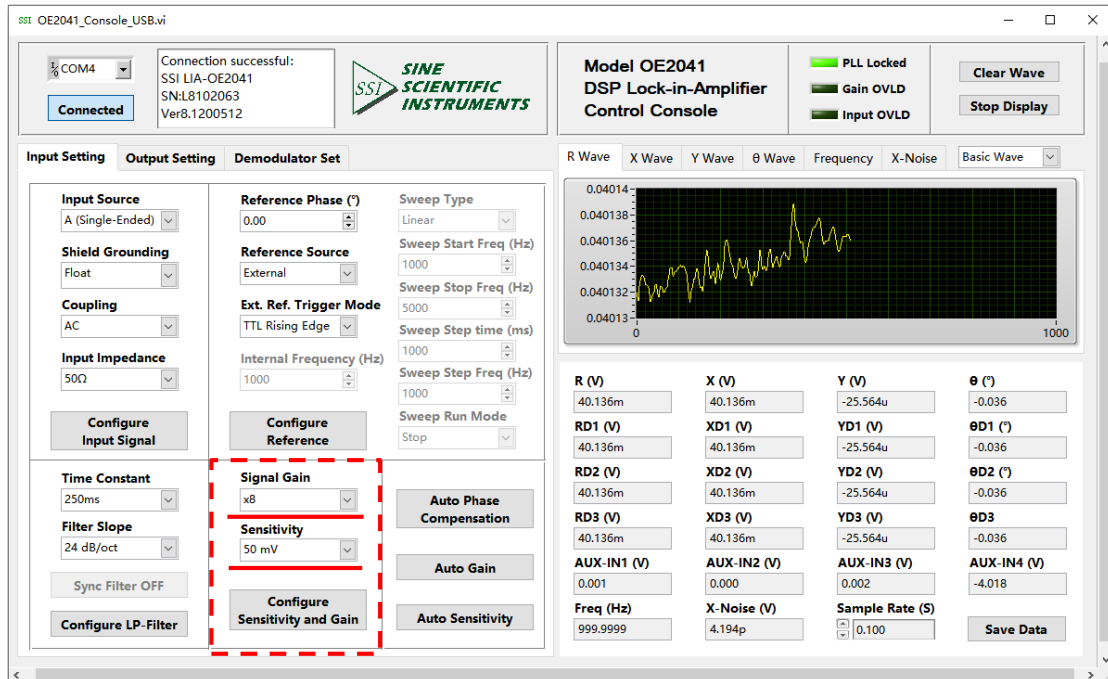
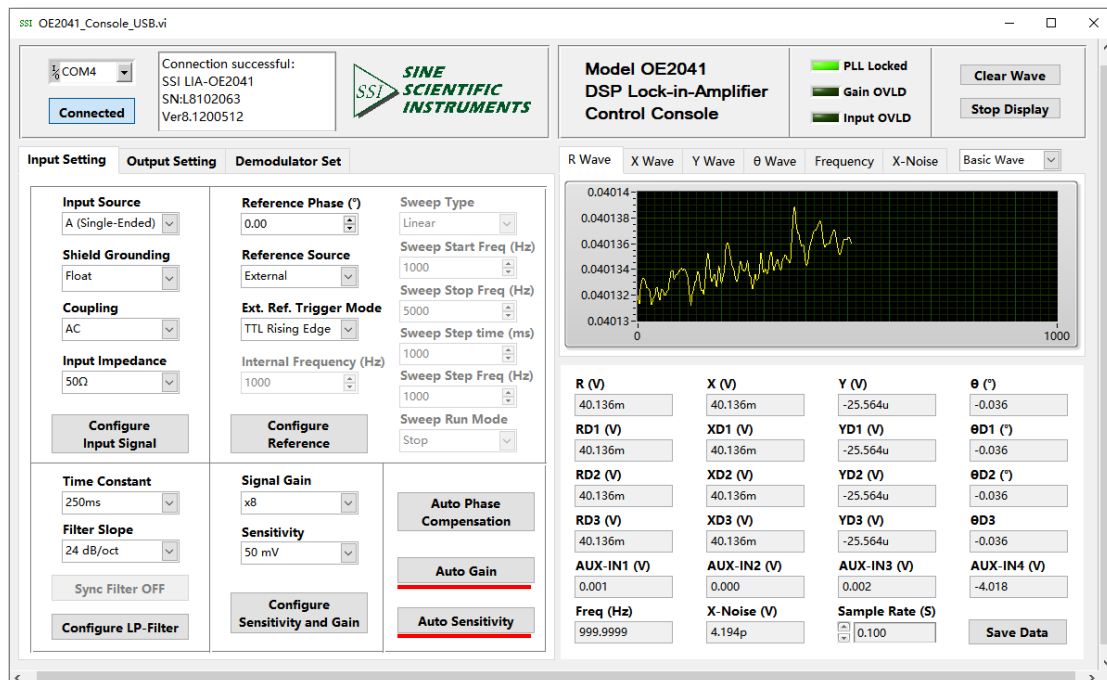
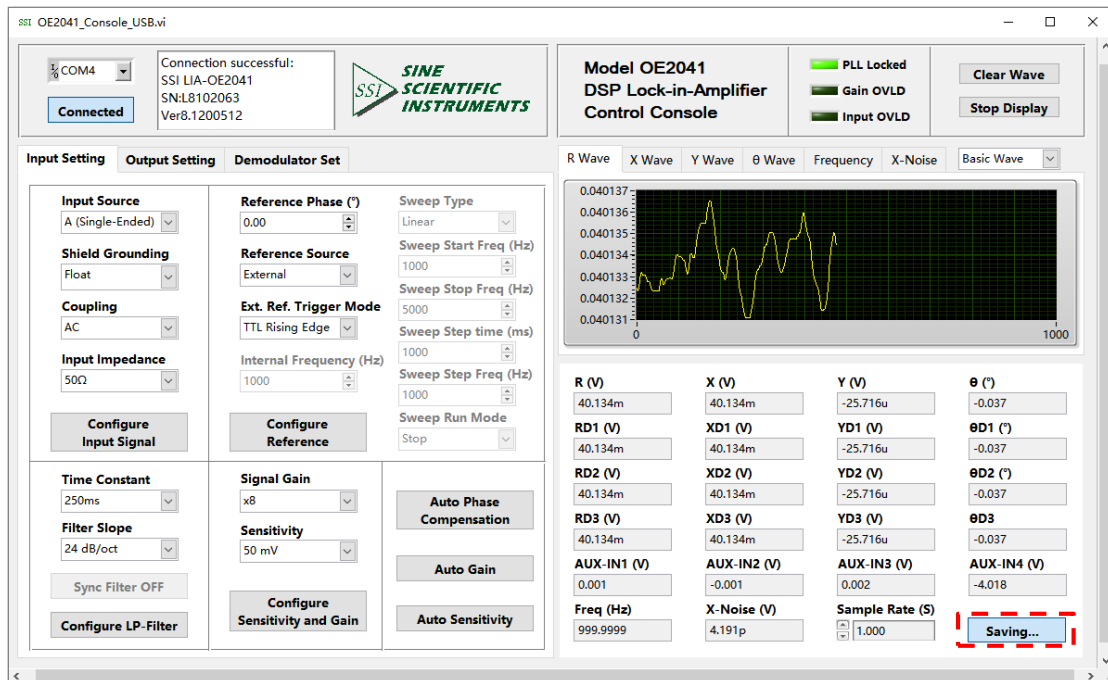

Fig.80 Sensitivity and Gain Configuration
Fig.81 Auto Sensitivity and Gain Configuration
Fig.83 The data saving is executing
4. Choose these two options in “Sensitivity and Gain Configuration”, including “Signal Gain” and “Sensitivity” with other options in default, as is shown in Fig.80. At last, click the button “Configure Sensitivity and Gain” to finish the configurations.
At this point, look at the “Sensitivity” item on the main interface, and compare Fig.80 to find that Sensitivity has been changed to the appropriate sensitivity (from 1V to 50 mV); and Gain has been changed from 0.4 to 8 times, as shown in Fig.81.
As is shown in Fig.81, click the button "Save Data" in the red box. When this button is clicked and it displays "Saving...". This means the OE2041 is saving data, as is shown in Fig.83.